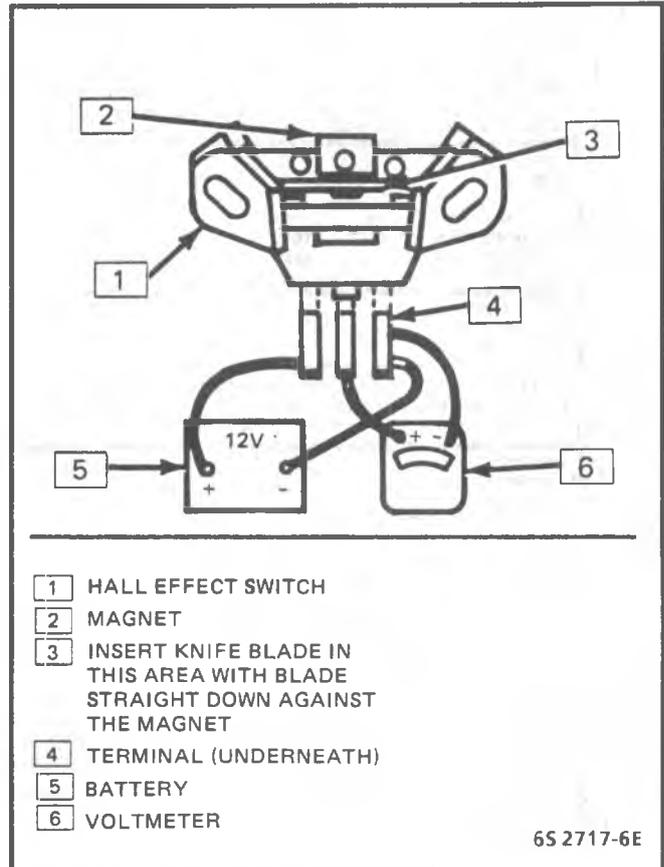

Figure 6-5 - Hall Effect Switch
2. Noting polarity marking on the switch, connect a 12 volt battery and voltmeter (Figure 6-5).